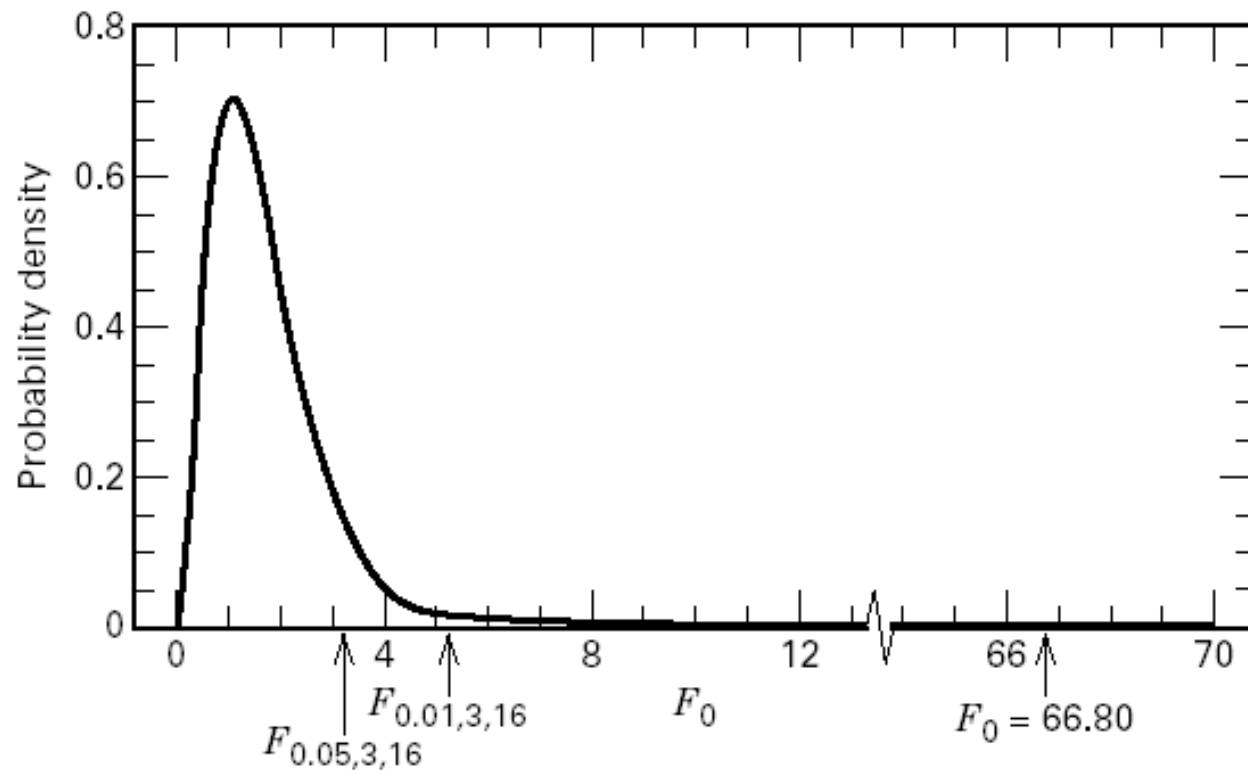

Figure 3-3 The reference distribution ($F_{3,16}$) for the test statistic F_0 in Example 3-1.
■ **FIGURE 3.3** The reference distribution ($F_{3,16}$) for the test statistic F_0 in Example 3.1